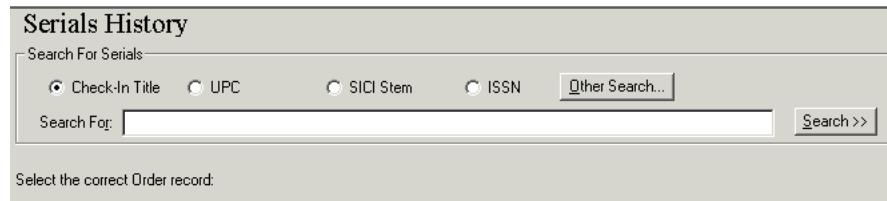

Figure 2-97. Serials History search workspace
- The **Serials History** button opens the **Serials History** search workspace (see Figure 2-97)